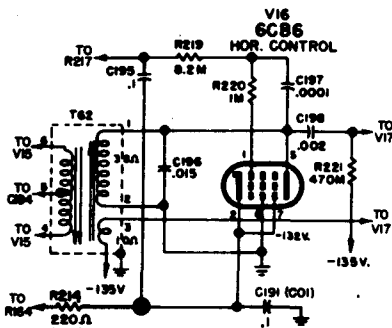

Fig. 21 — Sylvania
**Greater horizontal stability (see Fig. 21).**